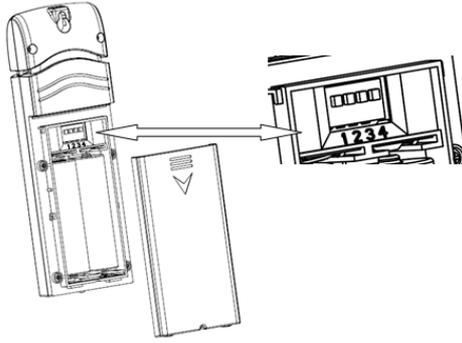

Figure 3: Battery installation
**Temperature Units:** To change the transmitter display units of temperature measure (°F vs. °C), change Dip Switch 4, as referenced in Figure 3.